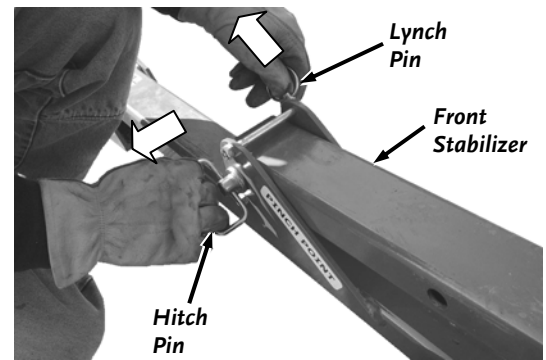

Figure 21
3. Pull the Front Stabilizer Lynch-Pins from the Hitch pins and remove the Hitch Pins (**Figure 21**).